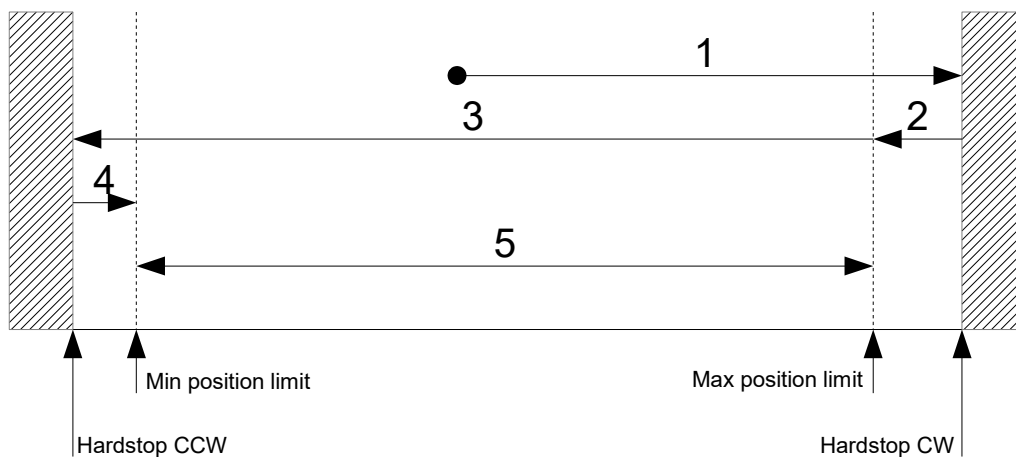

Figure 7: Double ended homing CW
For this homing method, the motor is driving with a constant positive velocity (6099_h:2) clockwise into a hard stop (1) as shown in figure 7. While driving into the hardstop the actual motor current is measured and compared with the current threshold (2025_h:4). If the current threshold is reached, the motor moves back by -PositionOffset_CW (2025_h:2) encoder steps (2). There the actual position (6064_h) and the max position limit (607D_h:2) are set to 0 and the motor drives on into the negative direction with a constant negative velocity (3). If the negative current threshold is reached, the motor moves back by +PositionOffset_CCW (2025_h:3) encoder steps (4). Then the motor is stopped and the min position limit (607D_h:1) is set to the actual position value (6064_h). The velocity is limited to (6099_h:1).